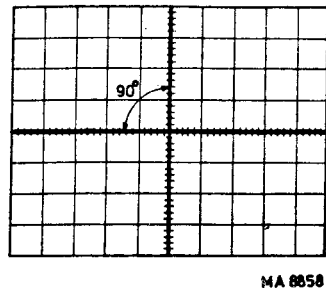

Fig. 3.16. Orthogonality check
- Check that the angle between the horizontal and vertical line is 90° see Fig. 3.16. if necessary, readjust X-Y CORR potentiometer R587 on the intermediate-amplifier board.